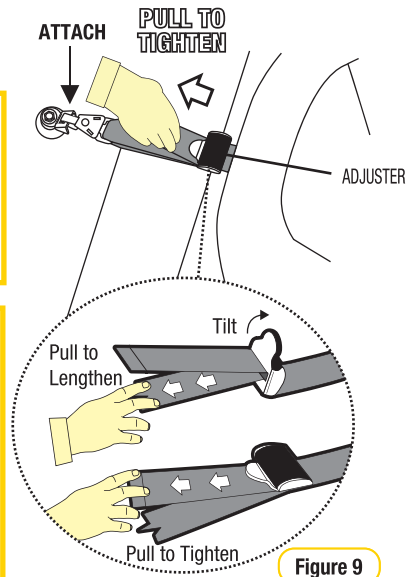

Figure 9
Step 6: Pull to tighten to remove all the slack, from the upper anchorage strap. Create a firm installation by tightening the upper anchorage strap (refer to Figure 9).